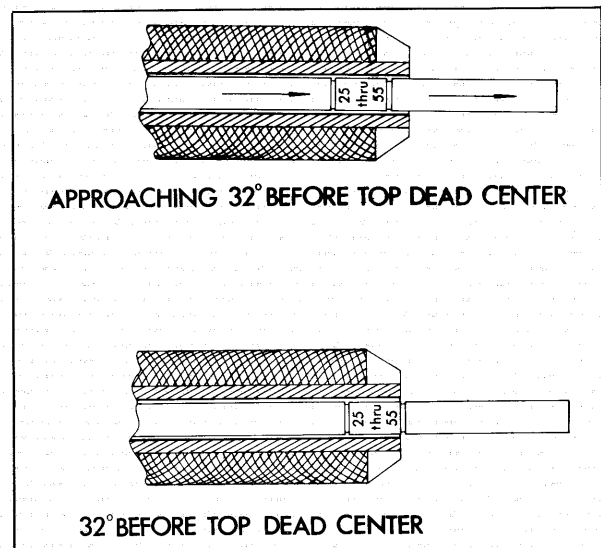

Figure 2 - Establishing 32° BTDC
- G. Apply slight pressure to end of rod with finger and turn crankshaft clockwise in direction of engine rotation until outer line of rod lines up with edge of barrel as shown in figure 2.